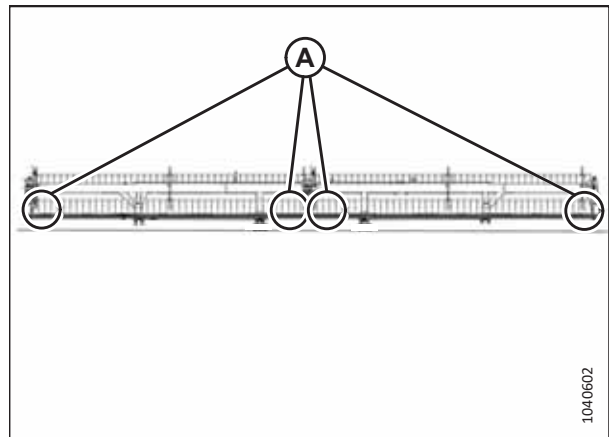

Figure 4.275: Double-Reel Measurement Locations
- Figure 4.275, page 380 – double reel